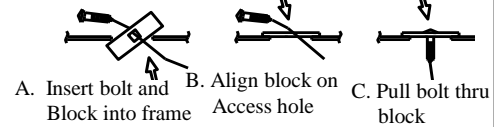

Figure 5
①	Qty. (1)	Carriage Bolt 7/16 x 1-1/4" GR5	⑥	Qty. (1)	U-BOLT 3/8"
②	Qty. (2)	Carriage Bolt 7/16 x 1-1/2" GR5	⑦	Qty. (2)	Spacer 1/4 x 1 x 1.5
③	Qty. (3)	Spacer 1/4 x 7/8" x 3	⑧	Qty. (2)	3/8" flat washer
④	Qty. (3)	Hex Nut 7/16" GR5	⑨	Qty. (2)	3/8 lock washer
⑤	Qty. (3)	Conical Toothed Washer 7/16"	⑩	Qty. (2)	HEX NUT 3/8"
- Lower exhaust by detaching it from the rubber isolators (2). Spraying lubricant on rubber isolator helps with removal.
- Install **shorter** 7/16" bolt (item 1) and spacer (item 3) in passenger side frame rail (Figure 4), using the Reverse Pull wire Procedure (Figure 5). Leave pull wire attached. **NOTE:** shorter bolt must be on passenger side.